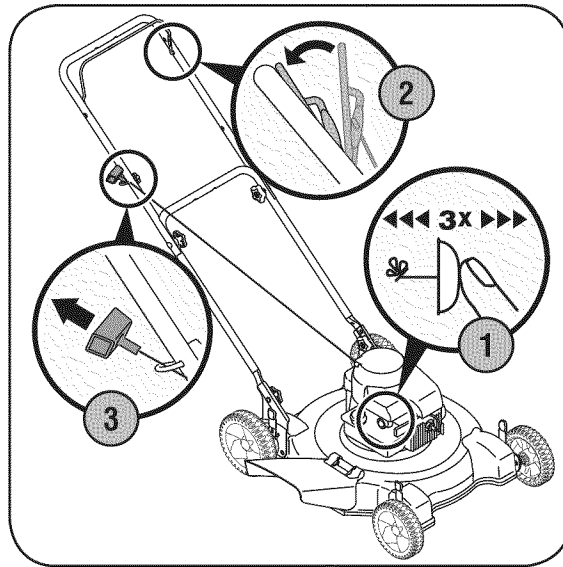

Figure 2
1. Push primer three times. Wait about two seconds between each push. See Figure 2. In temperature around 55°F or below, prime five times. Do not prime to restart a warm engine.
2. Standing behind the mower, squeeze the blade control handle against upper handle. See Figure 2.
3. Holding these two handles together firmly, grasp recoil starter handle and pull rope out with a rapid, continuous, full arm stroke. See Figure 2. Keeping a firm grip on the starter handle, let the rope rewind slowly. Repeat until engine cranks. Let the rope rewind each time slowly.